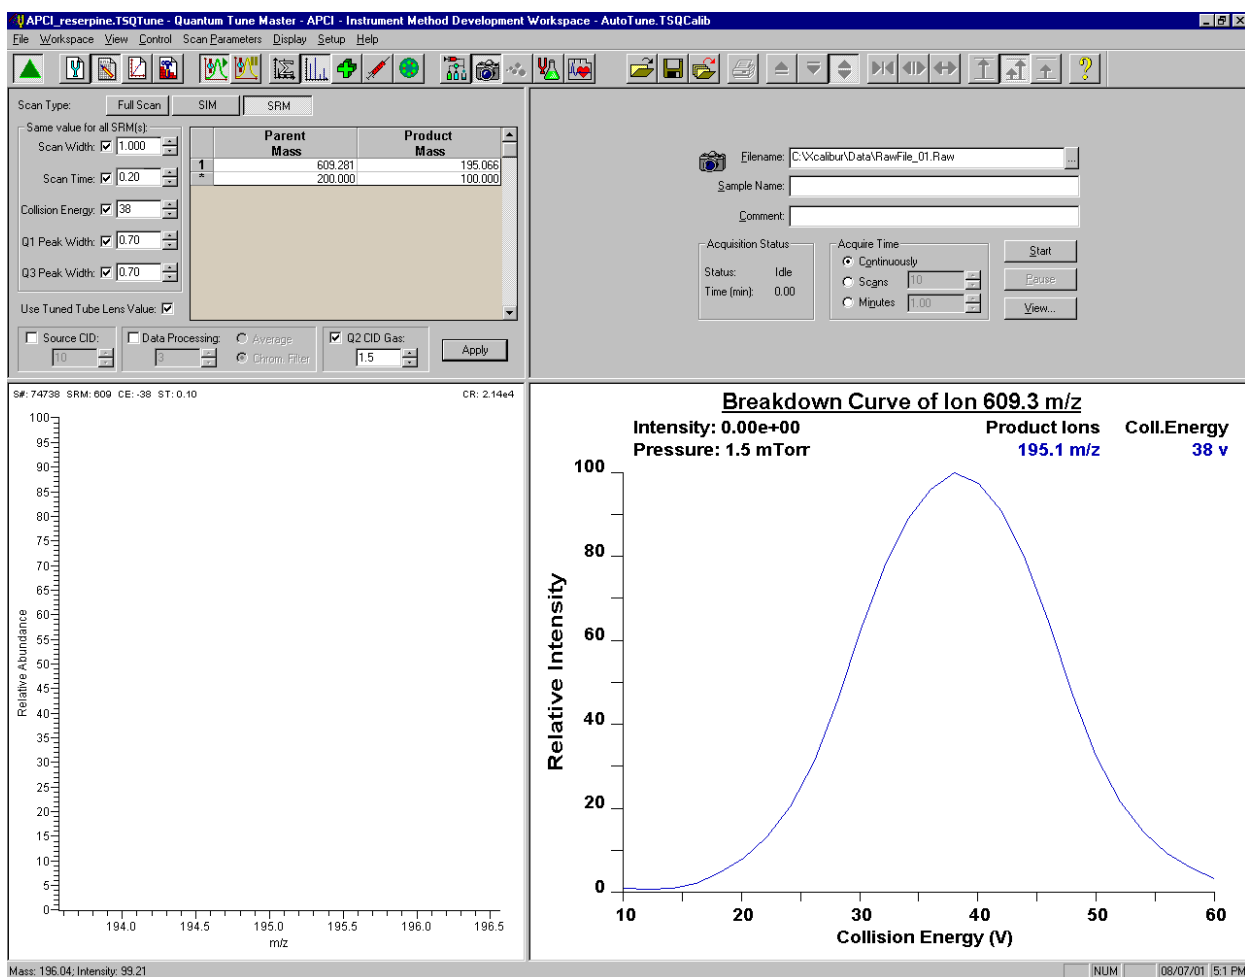

Figure 8-8. Instrument Method Development workspace
4. On the Control / Scan Mode toolbar, click on the Instrument Method Development Workspace button to open the Instrument Method Development workspace. See Figure 8-8.